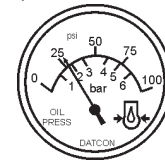

Figure 49. Oil Pressure Gauge
- The engine oil pressure gauge (Figure 49) will indicate the oil pressure of the engine. Under normal operating conditions the oil pressure is approximately 42 to 71 psi. (290~490 kPa).